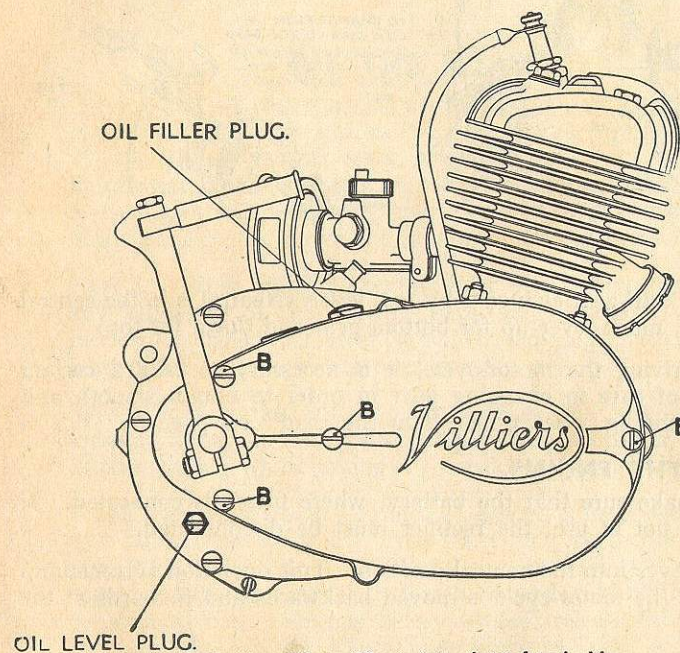

Fig. 1.—Mark 4F engine, right-hand side.
Lubrication, Gearbox and Chaincase ... ..	Castrol D (S.A.E. 140) filled to level plug. (See Fig. 1).
**Gearbox.** Remove the gearbox oil filler and oil level plugs (see Fig. 1.) With the motor-cycle off the stand, pour in CASTROL "D" oil (SAE 140) until it starts to run out at the hole from which the oil level plug has been removed.
**Every 500 Miles.** Inspect the level of the oil in the gearbox casing by removing the oil level screw as shown in Fig. 1 (page 3). If necessary, top up with the grade of oil recommended on page 2.